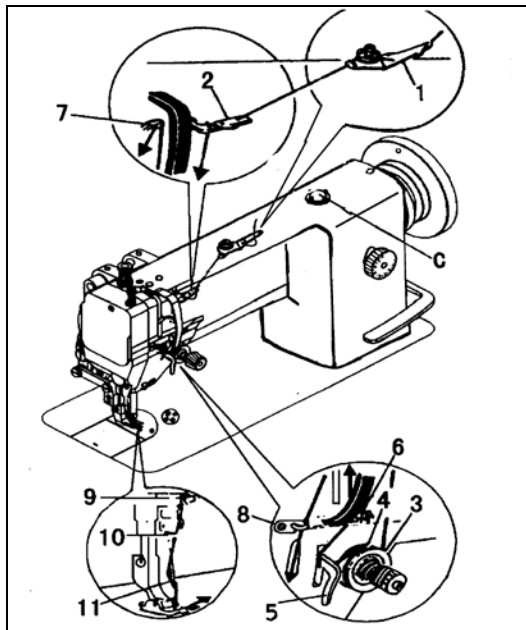

Fig. 7
- 1) Stitch length can be set by turning Dial (A).
- 2) The figures on Face (B) of dial show stitch length in mm.
- 3) Reverse feeding starts when Reverse Feed Lever (C) is depressed, and the machine will feed forward again if Reverse Feed lever (C) is released.
8. THREADING (Fig.7)
To thread the needle thread, raise needle bar to the upper end of its stroke, lead the thread from spool and perform threading as shown in Fig.7 . To draw the bobbin thread, hold the end of the needle thread and turn the balance wheel to lower the needle bar and then to lift it to its highest position. Pull the needle thread and the bobbin thread is drawn up. Put the ends of needle thread and bobbin thread frontward under presser foot.